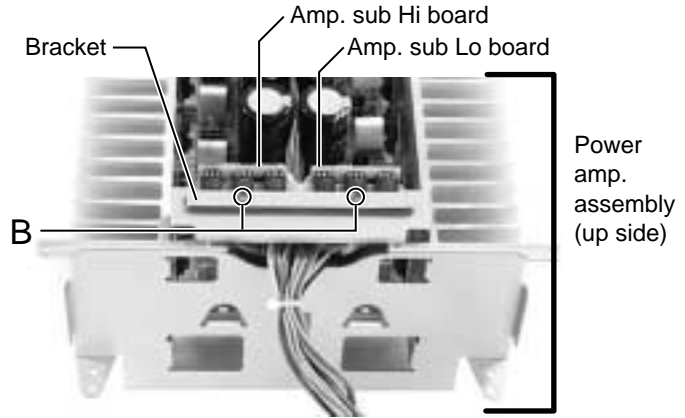

Fig.4
■ **Removing the amp. sub Lo board & amp. sub Hi board (See Fig.4)**